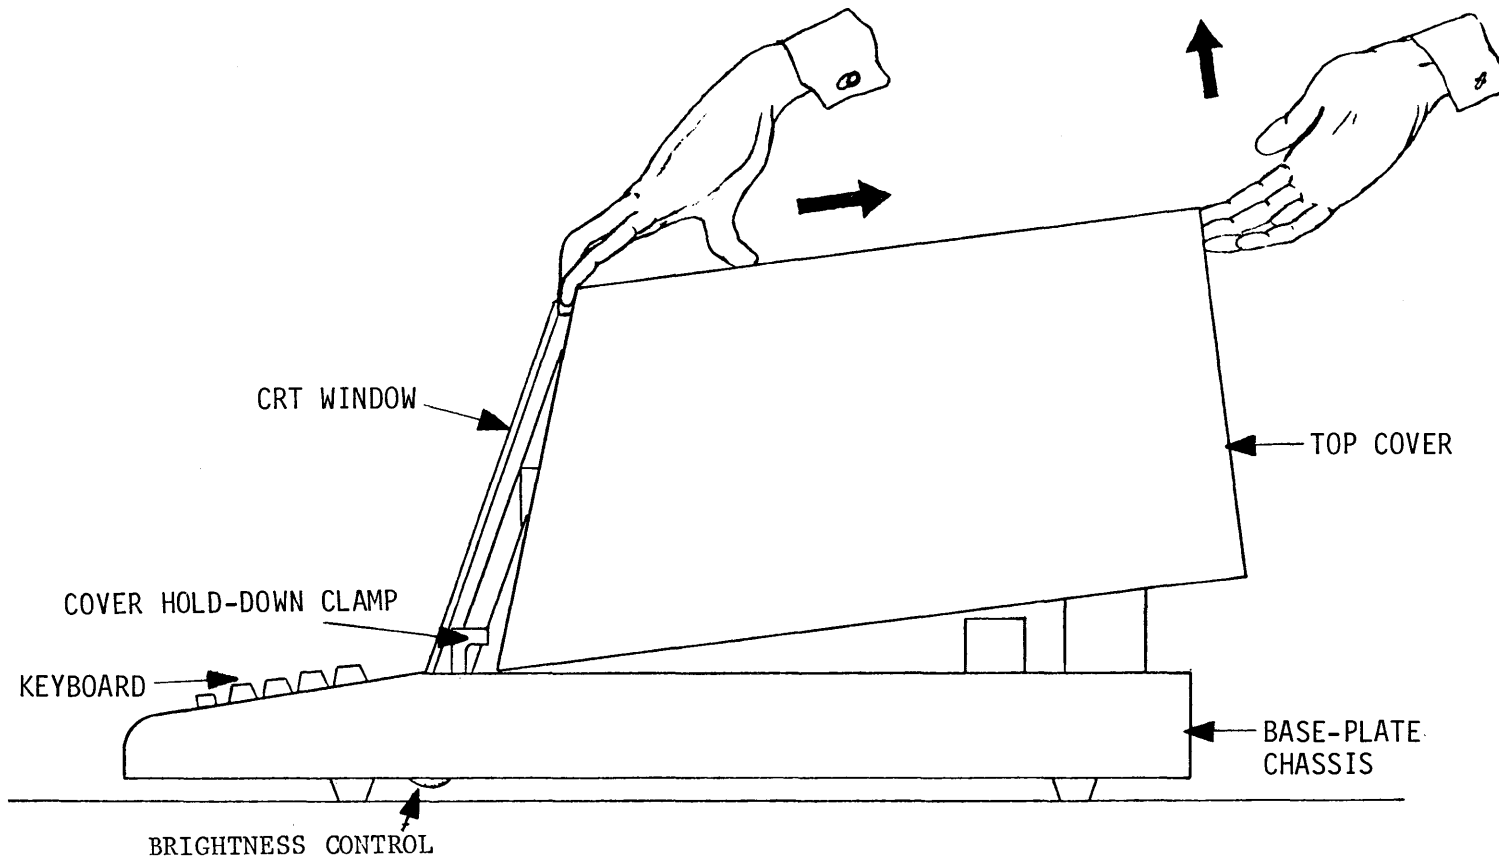

Figure 3-4. Removing the Cover
- b. Push the cover rearward, at its upper edge in the front, with the heel of the hand. At the same time, lift the cover at the upper edge in the rear and pull back. See Figure 3-4, Removing the Cover.